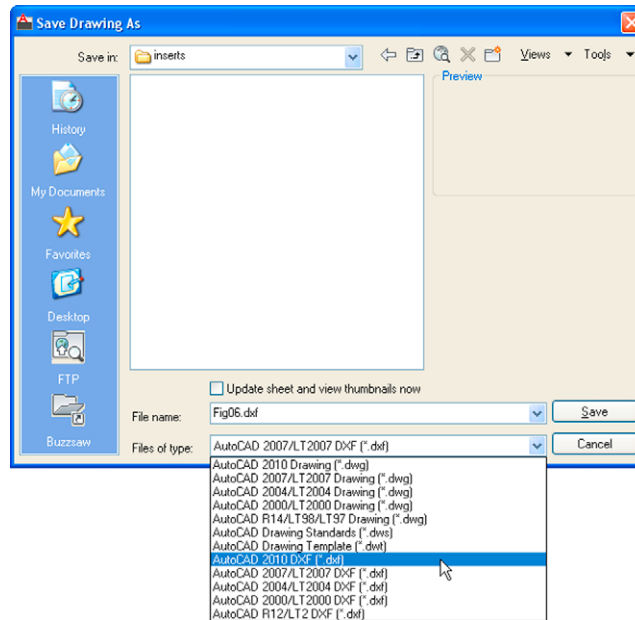

Fig. 10.7 The **Save Drawing As** dialog set to save drawings in **DXF** format
### Example – DXF file (Fig. 10.7)
3. Enter a suitable file name. In this example this is **Fig06.dxf**. The extension **.dxf** is automatically included when the **Save** button of the dialog is clicked (Fig. 10.7).